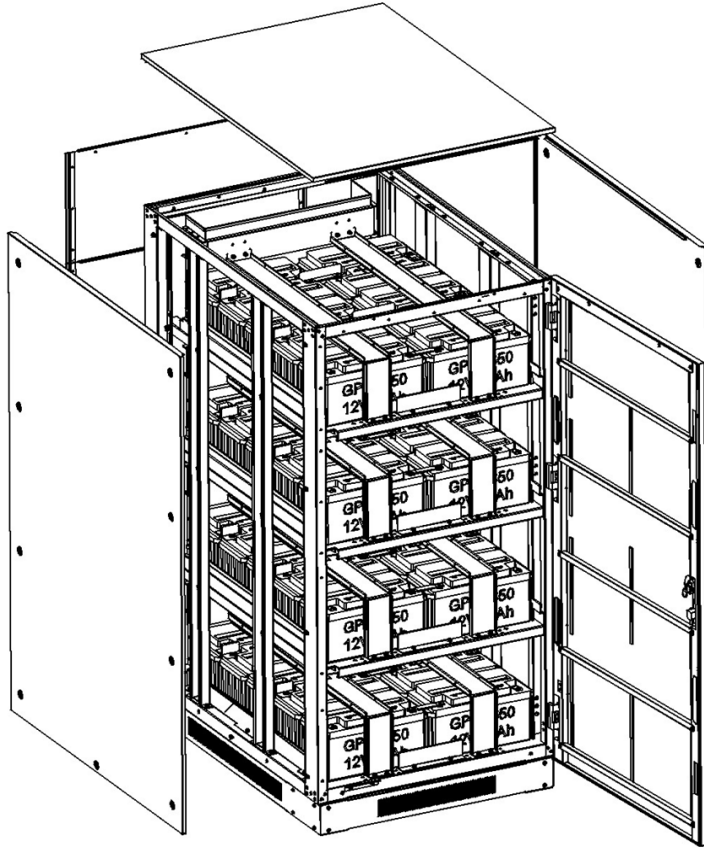

Figure 5-45
12. Reinstall all covers and screws (Figure 5-45).